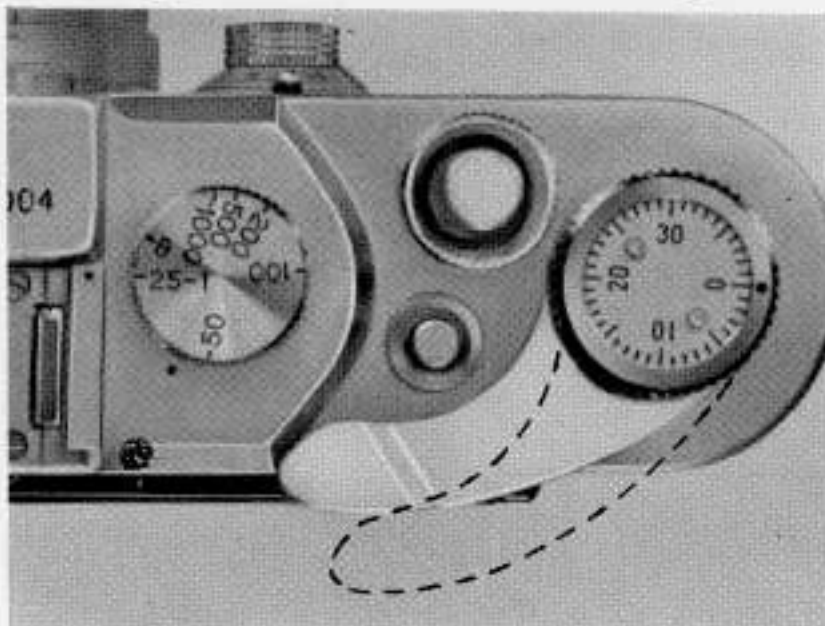

Fig. 12
- (IV) When the film is fully advanced and the shutter is cocked for the next exposure, the film transport lever returns to its original position (See Fig. 12). If the lever is gently pressed after a picture is taken, it pops out to a position shown in Fig. 12.